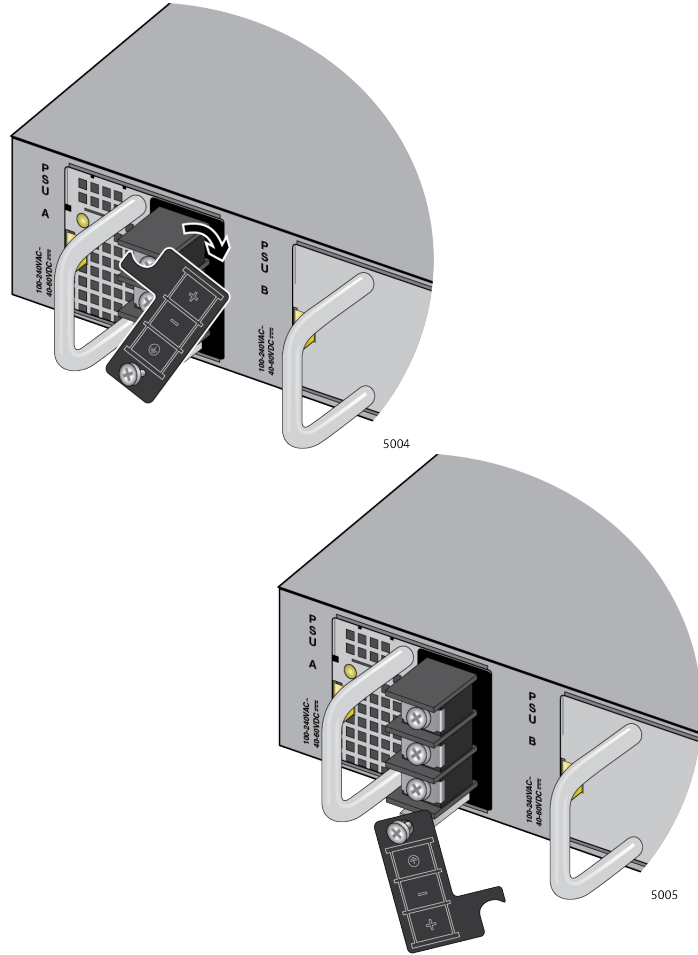

Figure 43. Accessing the Connectors
3. Press the panel to the right to expose the connectors as shown in Figure 43 on page 95.
1. Strip 6.5mm (0.25 in.) of insulation from the end of the stranded power wires with a wire insulator stripper. Refer to Figure 43.